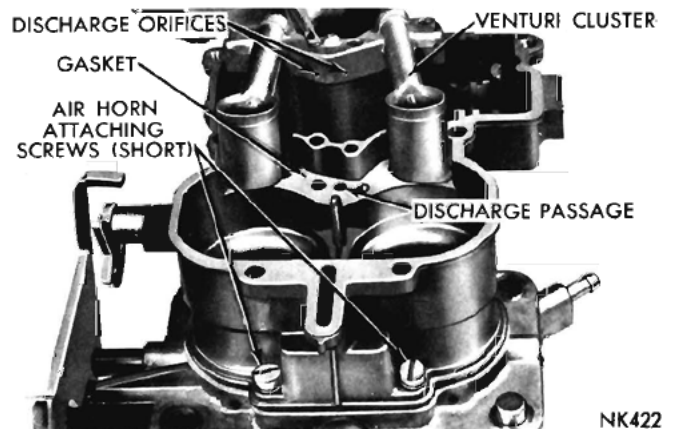
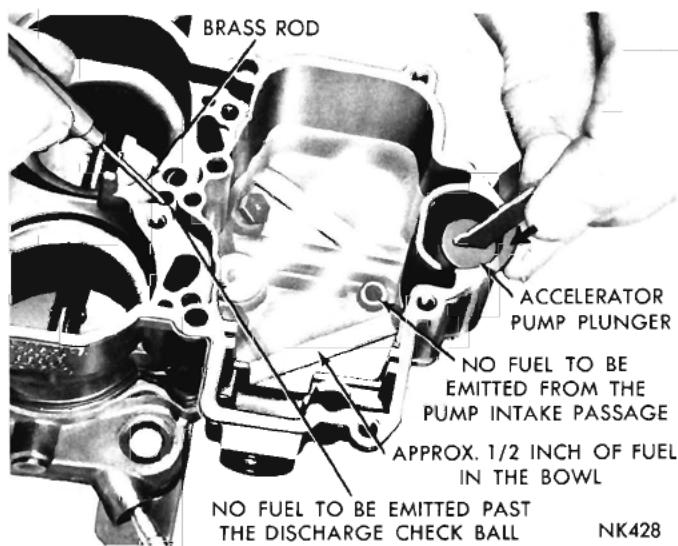

Fig. 6—Removing or Installing the Venturi Cluster
Fig. 14—Testing Accelerator Pump Discharge and Inlet Check Balls
(1) Remove the float fulcrum pin spring, then remove the fuel inlet needle valve, seat and gasket.
(2) Slide the float baffle up out of its grooves, then remove the float and fulcrum pin.
(3) Remove the venturi cluster attaching screws, then remove the venturi cluster gasket, as shown in (Fig. 6). Discard the gasket.
(4) Invert the carburetor main body and drop out the discharge check ball from the discharge passage, refer to (Fig. 6), and the accelerator pump inlet check ball from the pump well.
(1) Pour clean gasoline into the carburetor bowl approximately  $\frac{1}{2}$  inch deep. Remove the accelerator pump plunger from the jar of gasoline and slide down in its well. Raise the plunger and press lightly in the plunger shaft to expel the air from the pump passage.
(2) Using a small clean brass rod, hold the discharge check ball firmly down on its seat. Raise the pump plunger and press downward. No fuel should be emitted from either the intake or discharge passage, as shown in (Fig. 14).
(3) If any fuel does emit from either the intake or discharge passages, it indicates the presence of dirt or an imperfect seat. The passages should be recleaned and then thoroughly blown out with compressed air. Examine the ball seat for signs of damage that would not allow the check ball to seat properly.
(4) Reinstall the check ball and test again. If still leaking, place a piece of drill rod down on the check ball and rap sharply with a hammer. Remove the old check ball and install a new one. Then retest. (This operation forms a new ball seat in the carburetor casting.)
(5) Install the venturi cluster gasket, then slide the venturi cluster down into position. Install attaching screws and tighten securely. Refer to (Fig. 6).